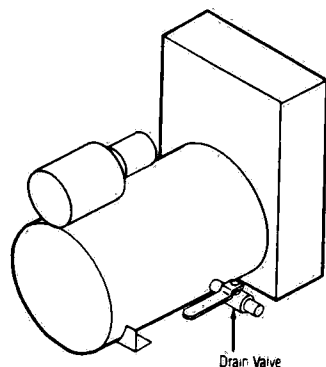

FIGURE 4-2 - Electric Steam Generator
- c. Wait until generator pressure gauge indicates zero, then open the generator drain valve by turning valve handle counterclockwise 90 degrees (Figure 4-2).